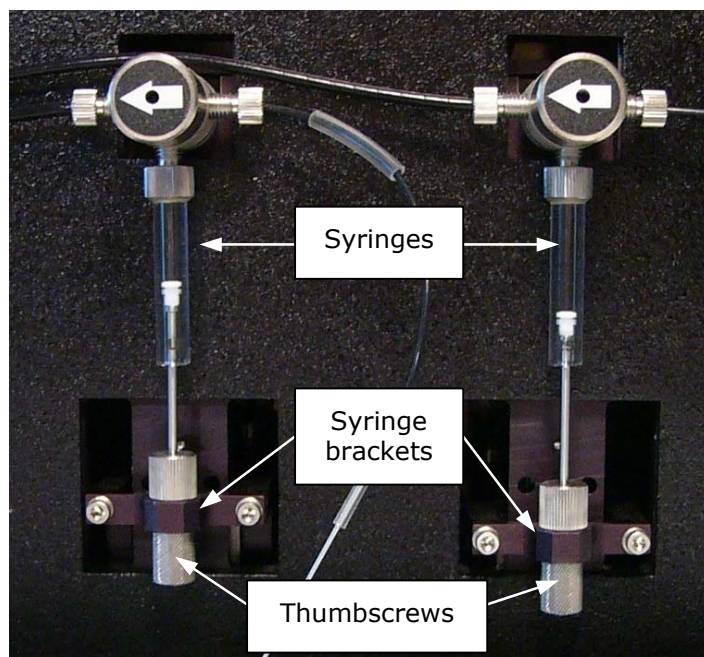

Figure 13: The dispense module; close-up view of the syringes.
13. Install both syringes, referring to **Figure 13**.